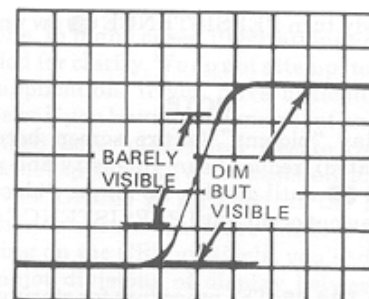

Figure 10. Fast Rise Time, Low Repetition Rate Signal (Normal)
3. Note waveform transition give very faint trace (see figure 10).